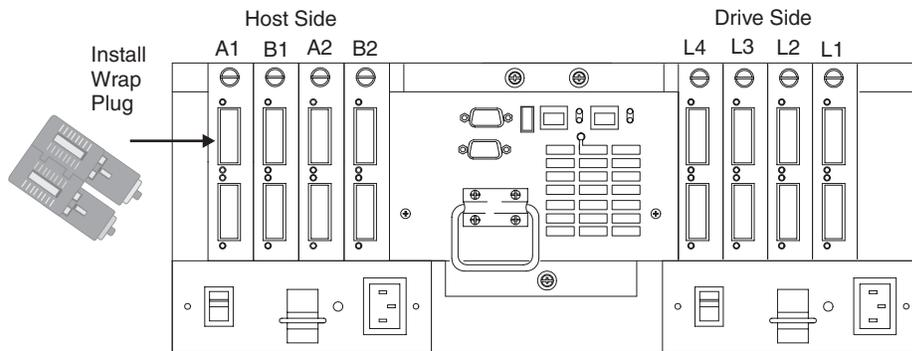

Figure 59. Install wrap plug to GBIC in mini-hub on controller A
- b. For a Type 3552 or 1742 controller, install a wrap plug to the GBIC in the mini-hub on controller A. See Figure 59 on page 162.